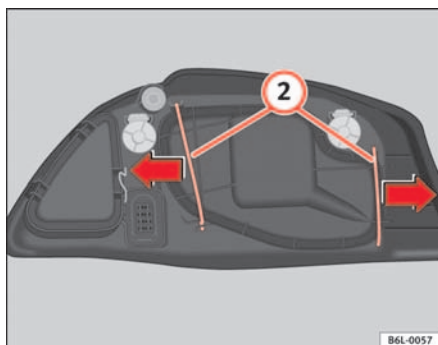

Fig. 142 Dipped headlight lamp
- Remove the loops (2) ⇒ fig. 142 outwards in the direction of the arrow and remove the cover.
- Fit the plastic cover and replace the loops (2) ⇒ fig. 142.